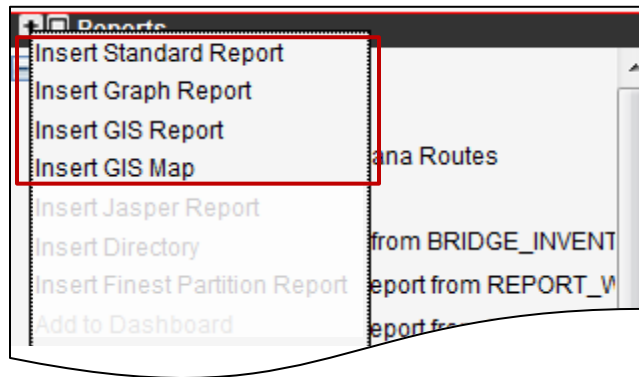

Figure 2-1. New Report Commands Example
- a. In the Reports Management window, perform one of the following functions (Figure 2-1) on the My Reports folder: